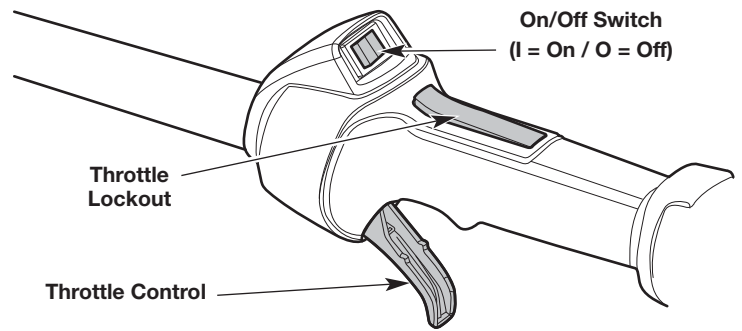

Fig. 18
**NOTE:** There is no need to turn the unit on. The On/Off switch is in the **On (I)** position at all times (Fig. 18).
6. Press and hold the throttle lockout. Squeeze and hold the throttle control (Fig. 18). Pull the starter rope with a controlled and steady motion **5 times** (Fig. 20).
2. Press and hold the On/Off switch in the **Off (O)** position until the engine comes to a complete stop (Fig. 18).